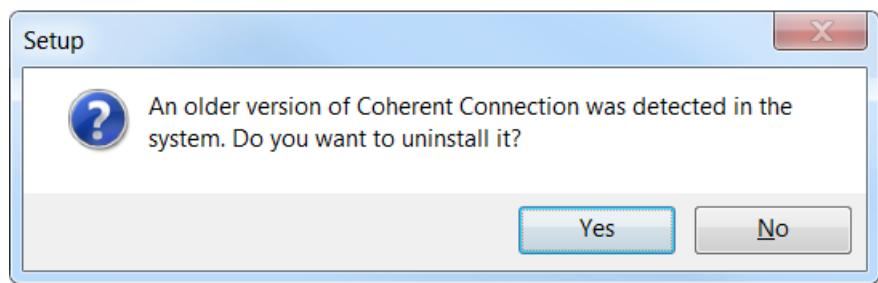

Figure 5-9. Uninstall Old Version of Software
5. If you had previously installed the Coherent Connection software, the message shown in Figure 5-9 is displayed. Click Yes to proceed.